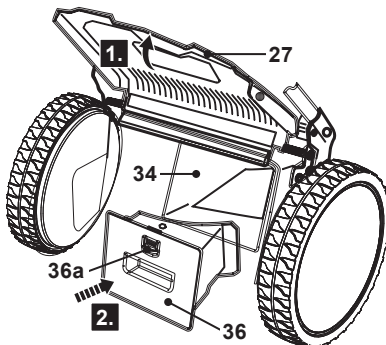

Fig. 19
1. Open the rear deflector guard (27), hold it in position and insert the mulching insert (36) into the rear discharge chute (34) (Fig. 19). Ensure the locking latch (36a) snap into the upper rim of the rear discharge chute (34).